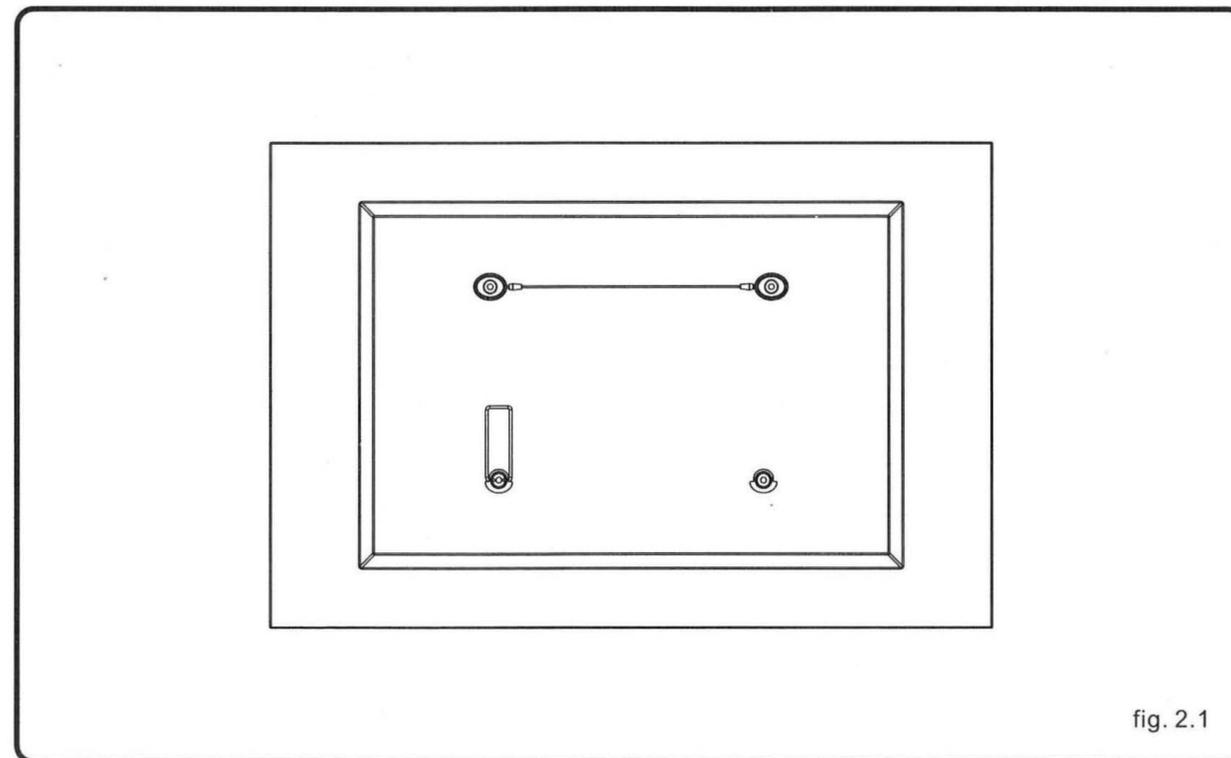

fig. 2.1
- Place screen face side down. Place adapter bracket and supporting spacer on the back of screen, align to holes, as shown in fig. 2.1.